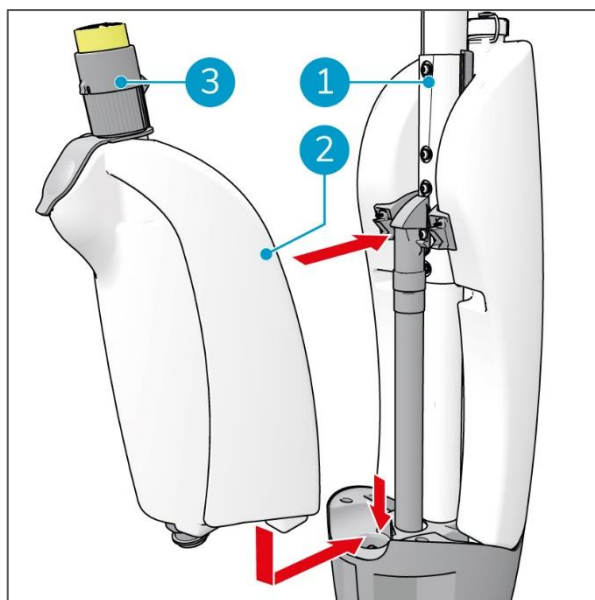

Figure 9
2. Attach the solution tank (Figure 9, pos 2) to the i-mop® (Figure 9, pos 1).
3. Ensure that the injector (Figure 9, pos 3) is attached to the solution tank (Figure 9, pos 2).